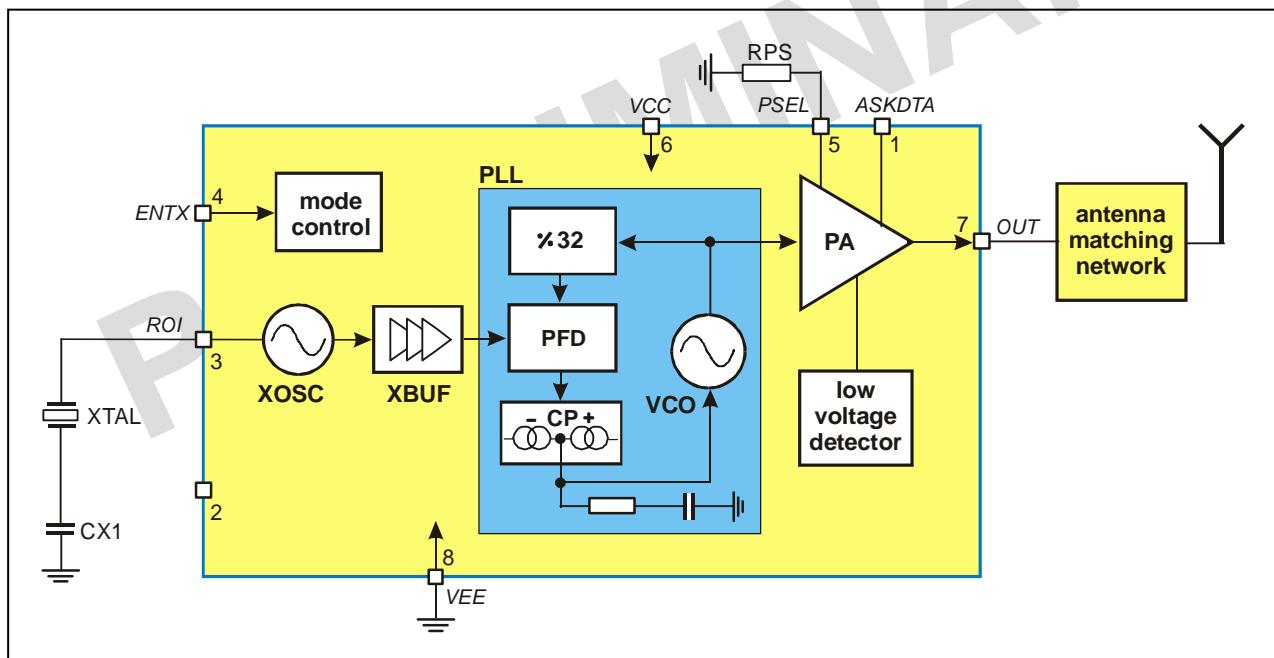

Fig. 1: Block diagram with external components
As depicted in Fig.1, the TH72012 transmitter consists of a fully integrated voltage-controlled oscillator (VCO), a divide-by-32 divider (div32), a phase-frequency detector (PFD) and a charge pump (CP). An internal loop filter determines the dynamic behavior of the PLL and suppresses reference spurious signals. A Colpitts crystal oscillator (XOSC) is used as the reference oscillator of a phase-locked loop (PLL) synthesizer. The VCO's output signal feeds the power amplifier (PA). The RF signal power P_{out} can be adjusted in four steps from $P_{out} = -12$ dBm to $+8.5$ dBm, either by changing the value of resistor RPS or by varying the voltage V_{PS} at pin PSEL. The open-collector output (OUT) can be used either to directly drive a loop antenna or to be matched to a 50Ω load. Bandgap biasing ensures stable operation of the IC at a power supply range of 1.9 V to 5.5 V.